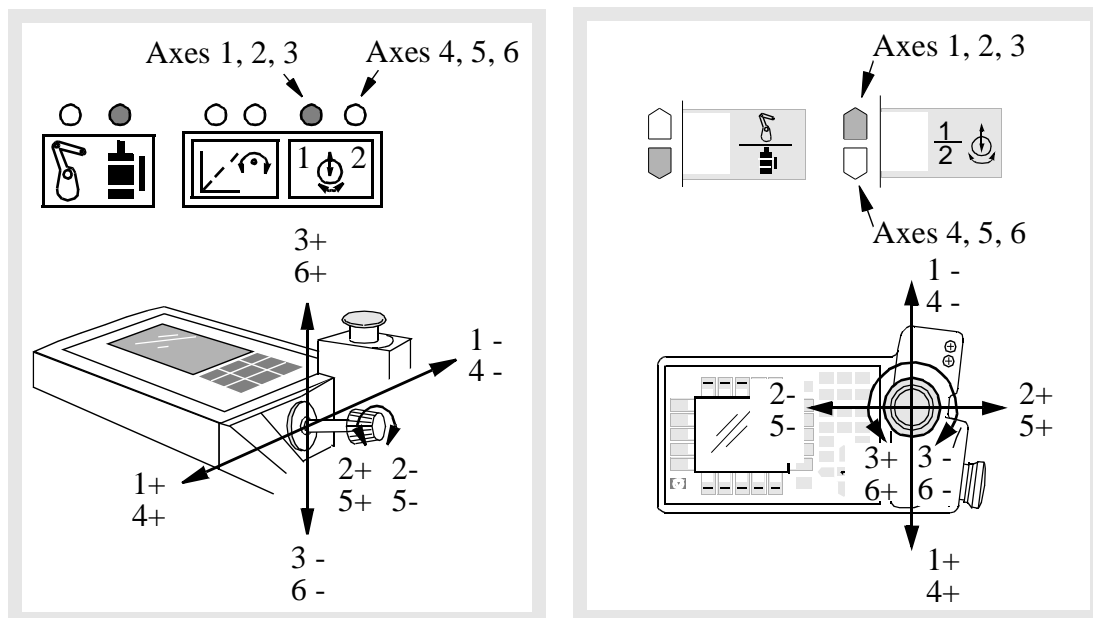

Figure 22 Specify the external axes you want to move by setting the keys as above.
- Choose the desired axis group using the motion keys (see Figure 22). If more than one external unit is used, see 3.1 *Choosing external units*.